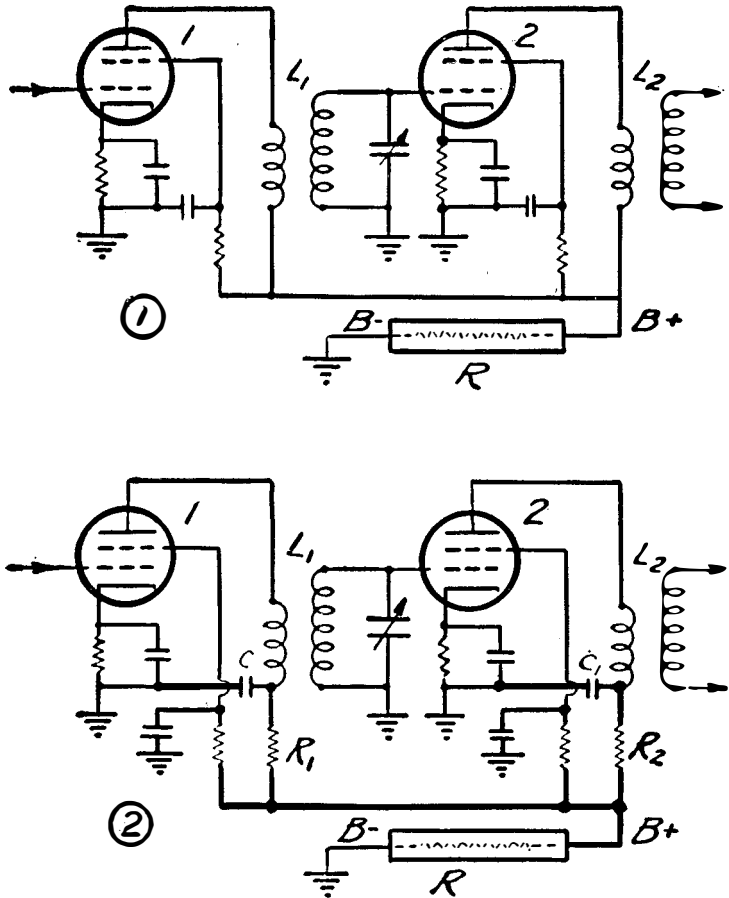

Figure 86.—Radio frequency amplifier, without and with decoupling circuit.
various stages are coupled together by the common impedance of the plate supply. (See fig. 86 (1).) Note that voltage for both tubes is obtained from a common B , or plate, supply. The internal resistance of this common supply is represented by R . Any change of plate-current flow in tube 2, such as a signal current, will cause a change of voltage across R . This causes a change of the B supply voltage to the plate of tube 1, and induces a voltage in L_1 , which is connected to the grid circuit of tube 2. This tube will amplify the change and it will appear across L_2 as a larger change. It can be seen that a part of a signal from the plate of tube 2 is fed back to the grid circuit of the same tube. This condition may cause unwanted oscillation. Circuits that prevent this condition are called decoupling circuits, and are shown in figure 86 (2). The capacitors C and C_1 , together with resistors R_1 and R_2 , make up the decoupling circuit. The resistors R_1 and R_2 offer a high impedance to the signal voltage, while the capacitors C and C_1 bypass the signal voltage around the B supply. A choke coil can be used instead of the resistors R_1 and R_2 . The bypass capacitors for the